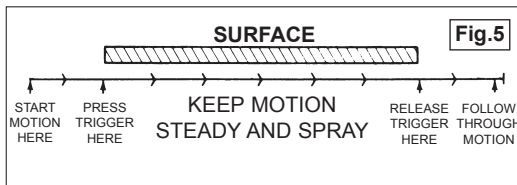

Fig.5
- 4.8. Once you are satisfied with the results of your test pieces and have made any necessary adjustments to the air brush, continue with the task to be performed. Best results are achieved with a good constant motion. Start the motion before pressing the trigger and follow a through motion after releasing the trigger, fig.5.